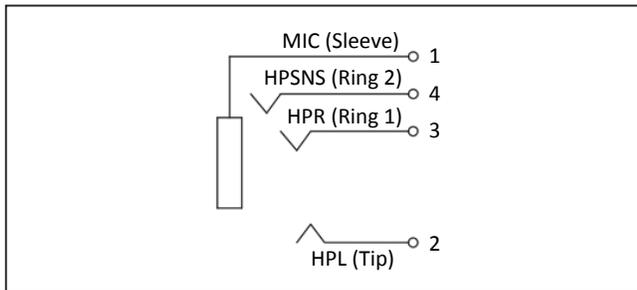

Figure 14. Headphone Jack
The MAX98090 stereo headphone output (HPR/HPL) is routed to the on-board 3.5mm audio jack (HP), as shown in Figure 14. The HP jack also allows for a headset connection, with the microphone input (MIC) connected to either IN1 or IN5. See the Analog Inputs section for input configuration options.